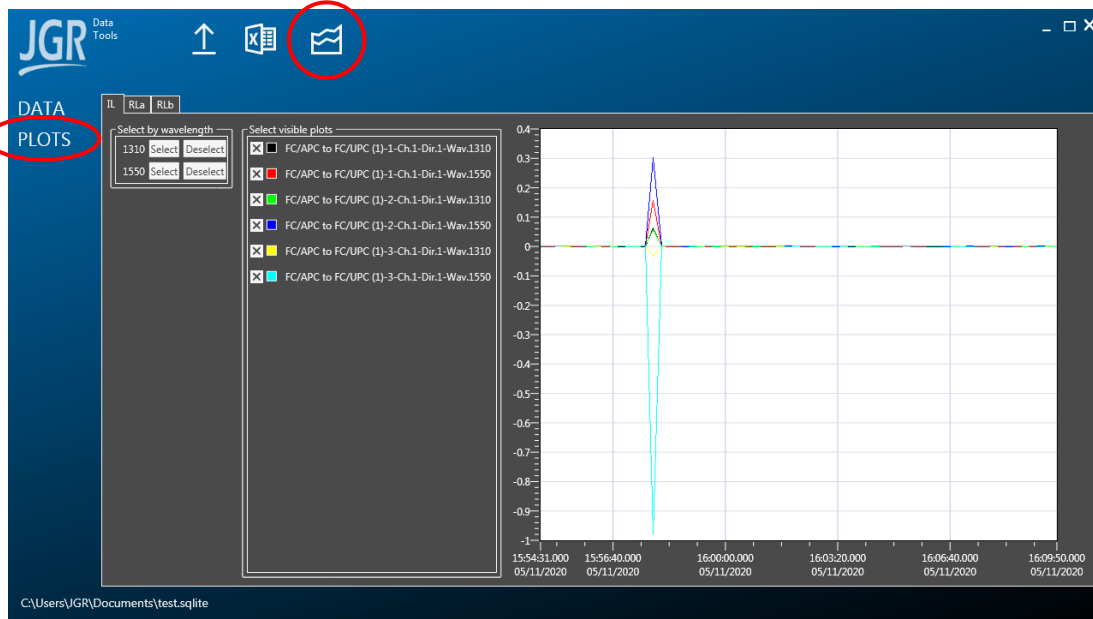

Figure 42: Data Tools – plots
- Go to the PLOTS tab and click on the icon below (Figure 42) to create data plots.